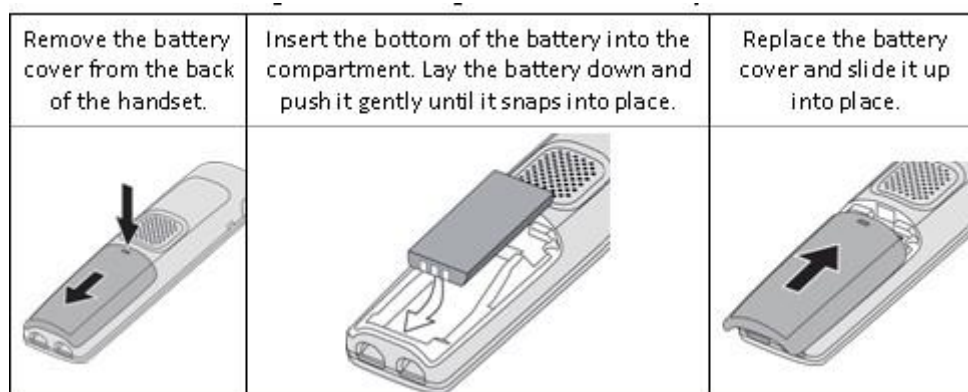

Figure 2-177 Installing the Handset Battery
1. Install the handset battery as shown below in Figure 2-177 Installing the Handset Battery.